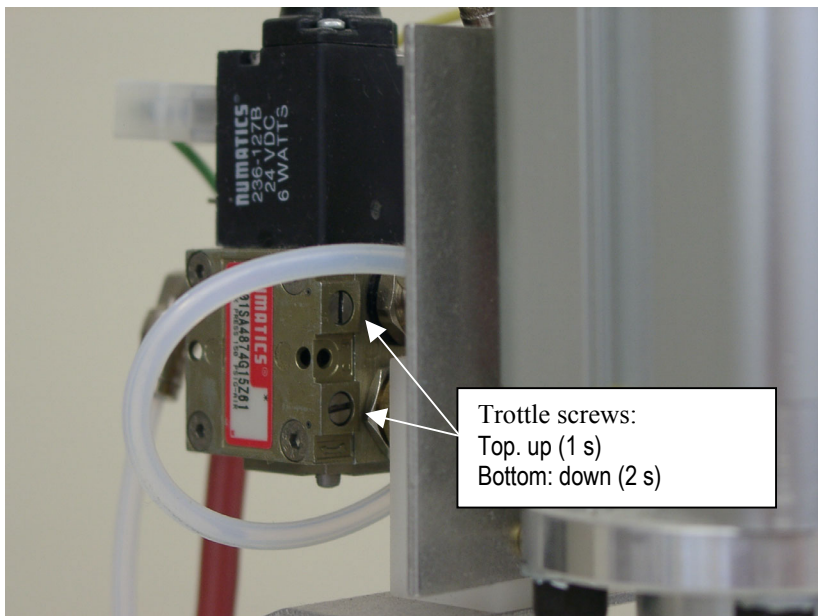

Fig. 2
- The crosshead of the cylinder must take at least **2 s** to move upward and **1 s** to move downward. (This can be adjusted using the throttle screws, see Fig. 2).